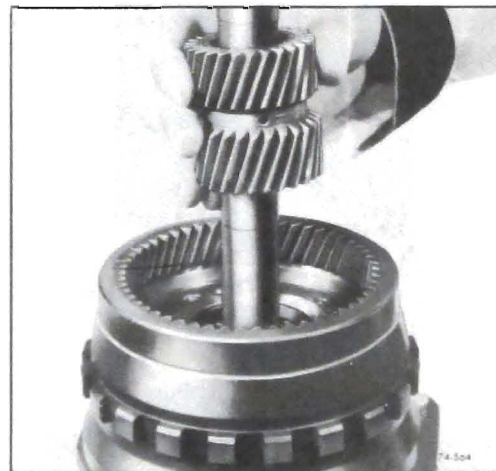

Figure 76-564
6. Remove sun gear. See Figure 76-564.